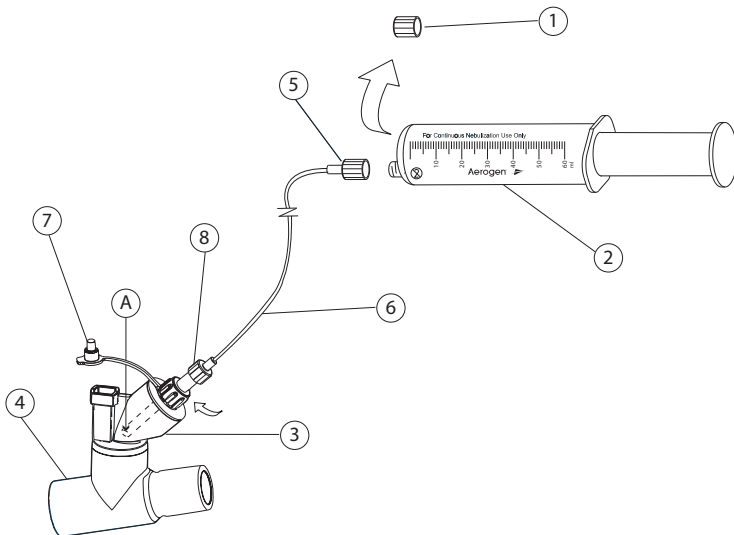

Figure 6: Connecting tubing and syringe to the Aeroneb® Solo for continuous nebulization
Instructions as per Figure 6.
1. Ensure the Aeroneb® Solo nebulizer unit (3) is firmly fitted into the Aeroneb® Solo T-piece (4) in the breathing circuit.
2. Remove the syringe cap (1) from the medication-filled syringe.
3. Attach the syringe end of the tubing (5) onto the syringe (2).
4. Prime the tubing (6) until the medication reaches end of tubing (Point A). **NOTE:** The tubing priming volume is maximum 3.65 mL.
5. Unplug the tethered cap (7) from the Aeroneb® Solo nebulizer (3), but do not remove it from the nebulizer.
6. Screw the nebulizer end of the tubing (8) onto the top of the nebulizer.
7. Insert the syringe filled with medication into the syringe infusion pump (pump not shown in Figure 6).
Refer to Figure 6.